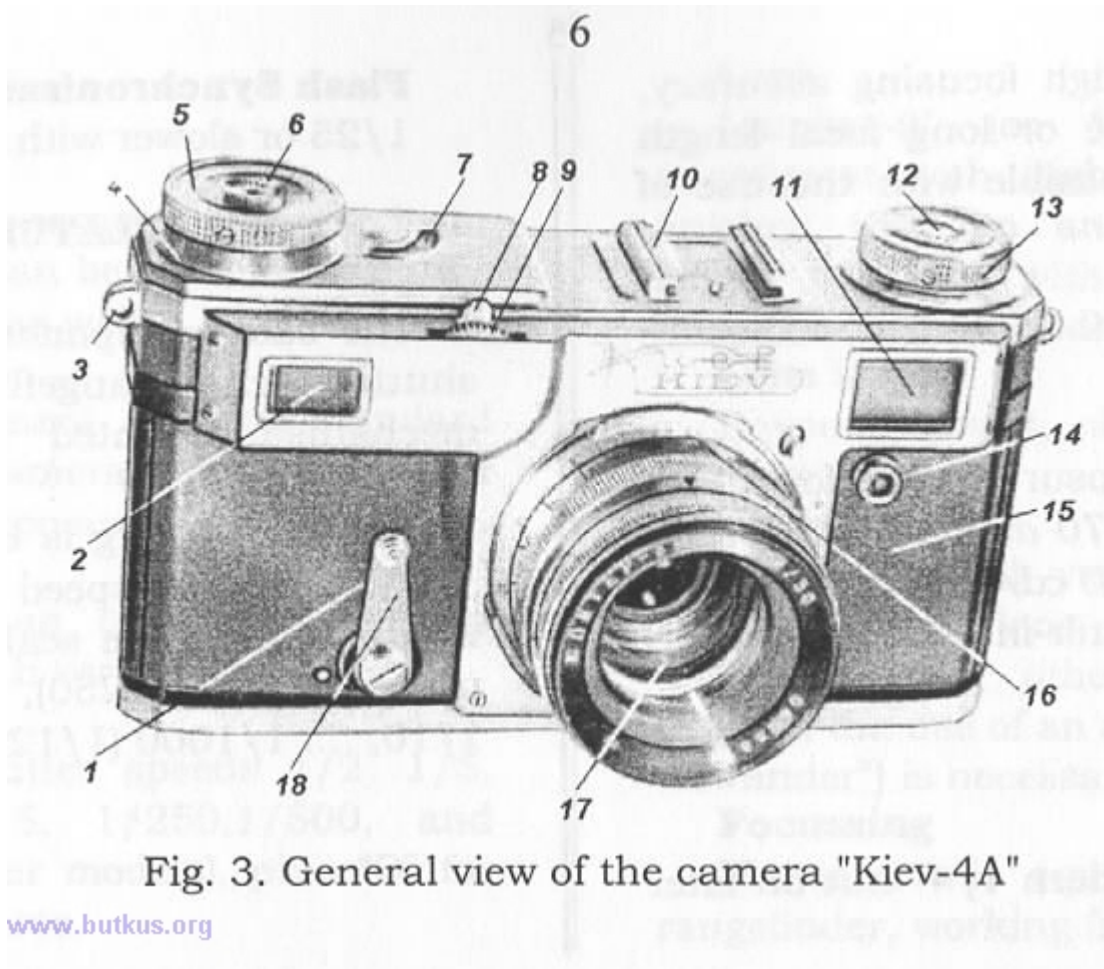

Fig. 3. General view of the camera "Kiev-4A"
The basic components of the camera (fig. 3) are: shutter, lens, rangefinder, viewfinder, self-timer mechanism mounted on the body, and removable back cover.
The self-timer mechanism is located inside the camera body. It is started by the lever 13. Also shown in fig 3 are: 3- camera strap eyelet; 14 -flash PC cord outlet.
Turn the advance knob 5 clockwise (fig. 3)
Turn the lever (18) (fig. 3) counter clockwise against the stop (fig. 16).
For mounting flash directly on the camera, there is an accessory shoe 10 and a PC plug outlet 14 (fig. 3). Only flash with cord connection can be used (for flash with shoe contacts, a special adapter for "hot shoe" to PC cord connector is available).